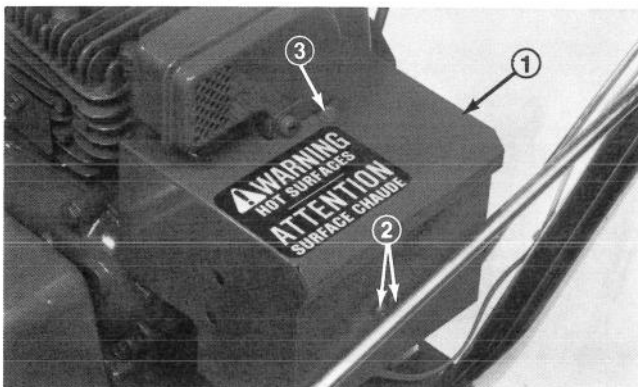

Figure 20
Note: If engine is operated when temperature is +40° F (4° C) or higher, remove carburetor heater box (Fig. 20). However, the heater box must be re-installed when temperature falls below +40° F (4° C). To remove heater box:
- A. Remove phillips screws and hex head screw securing heater box in place. Pull choke knob off choke rod (Fig. 20).
7. After engine starts, immediately rotate choke (Fig. 20) to 3/4 position. As engine warms up,